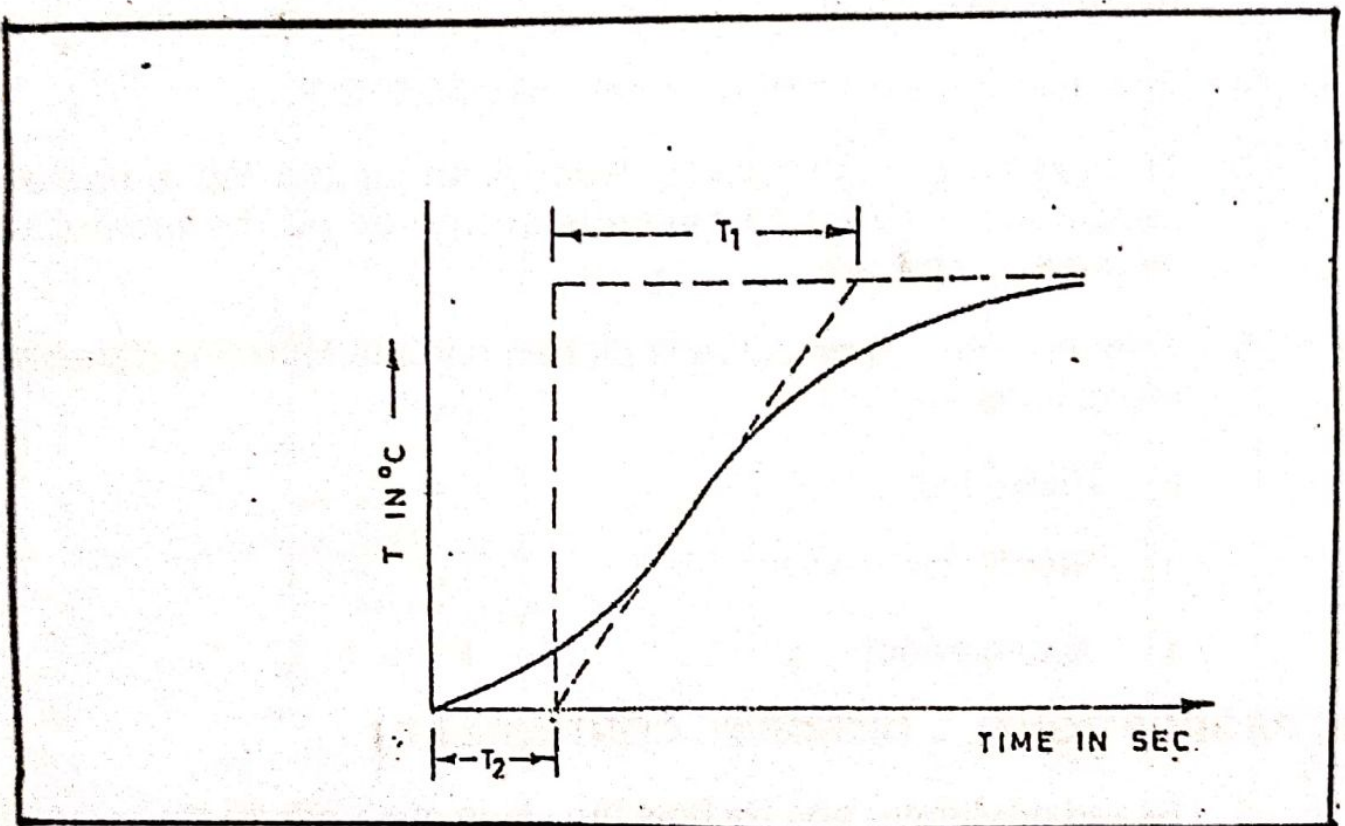

FIG. 1. OPEN LOOP RESPONSE OF THE OVEN
8. Temperature - time curve is plotted and  $T_1, T_2$  are calculated. [fig.1] and the transfer function of the oven including its actuator were found.